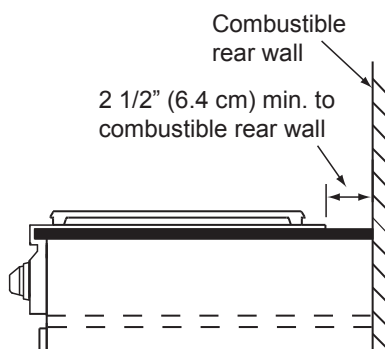

FIGURE 1
- The minimum distance from the back of the cooktop to a combustible rear wall is 2 1/2" (6.4 cm) minimum (Figure 1).